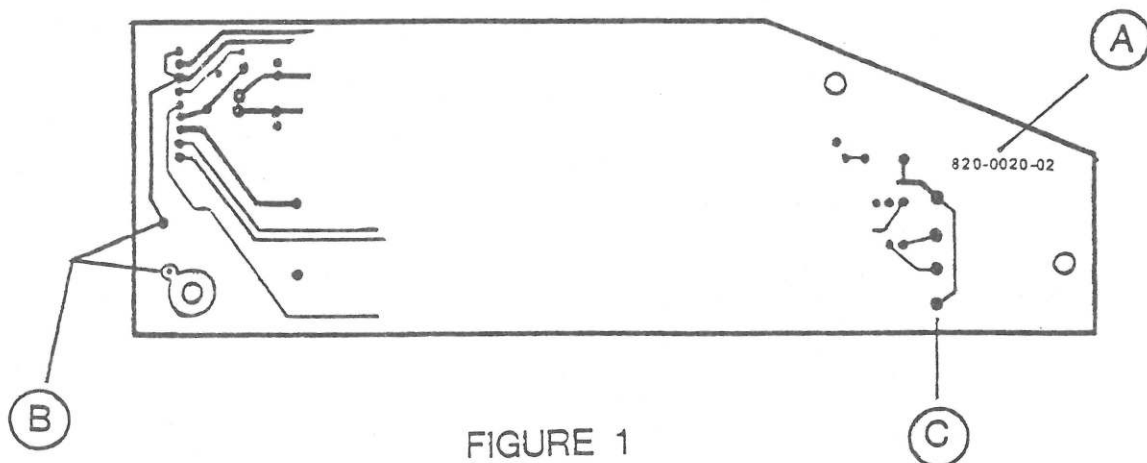

FIGURE 1
5. Install the deserializer card in the printer as usual. Note that the left margin switch wire from the chassis should connect to post J5 on the card and that J6 (Figure 1, C) will not be used.
SILENTYPE PRINTER (Figure 1)